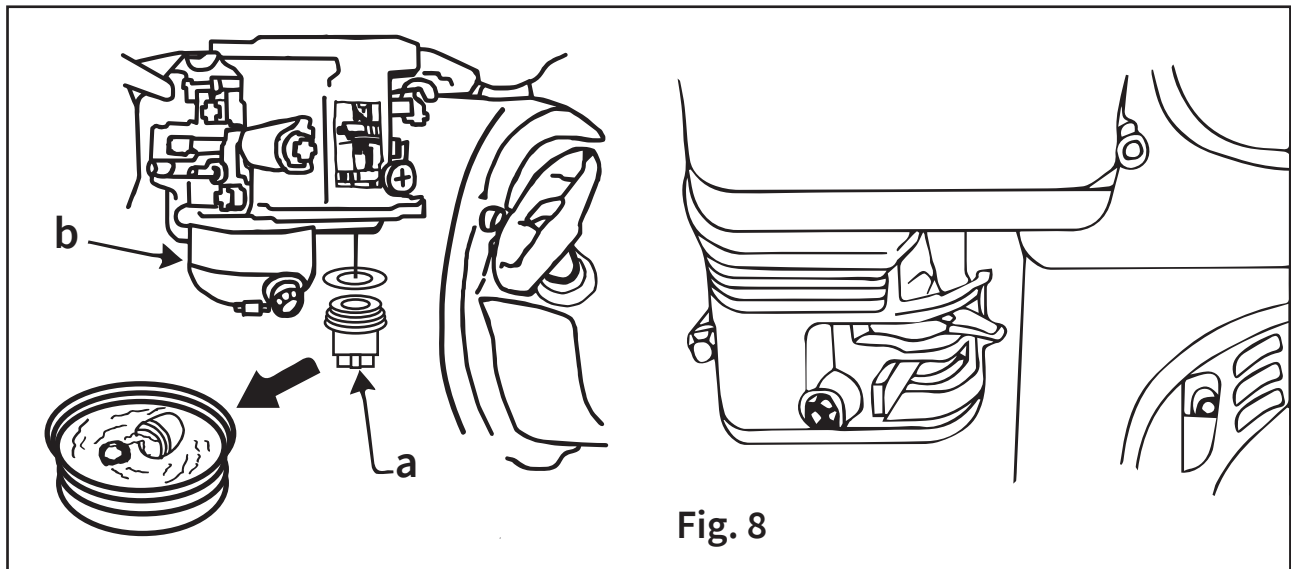

Fig. 8
4.7 Cleaning Air Filter Cup (Fig. 8)